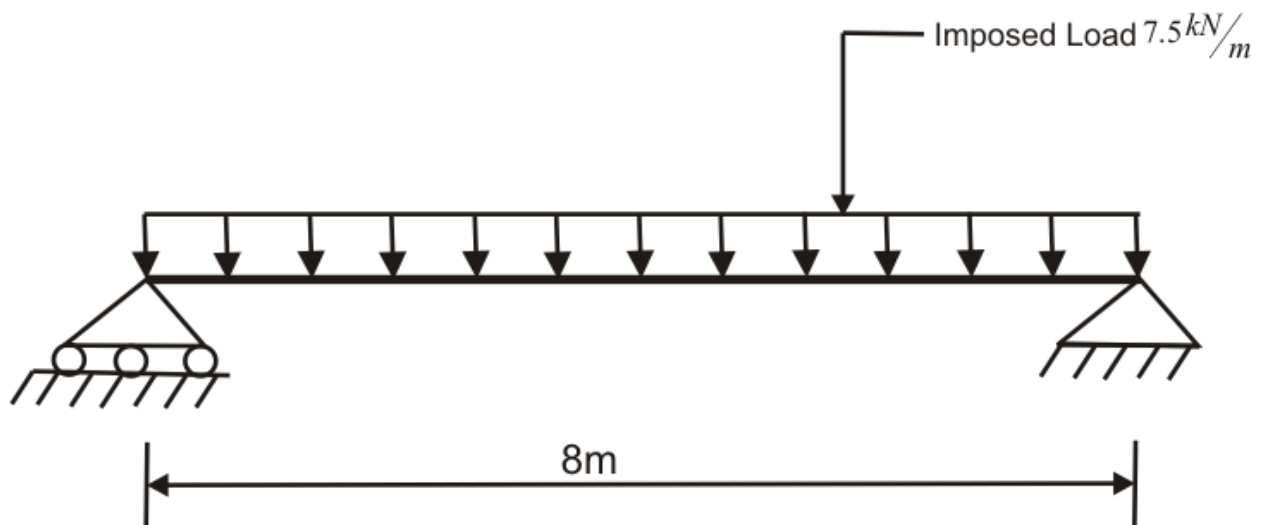

Figure 1
b) Select a suitable UB section to function as a simply supported beam carrying 150mm thick concrete slab together with an imposed load of 7.5 kN/m^2 . Beam span is 8m (fig. 1) and are spaced at 4m intervals. The slab may be assumed capable of providing continuous lateral restraint to the beam's top flange. Assuming use of grade 43 steel and no material greater than 16mm thick. Due to restraint from slab there is no possibility of lateral-torsional buckling. Design the beam for: